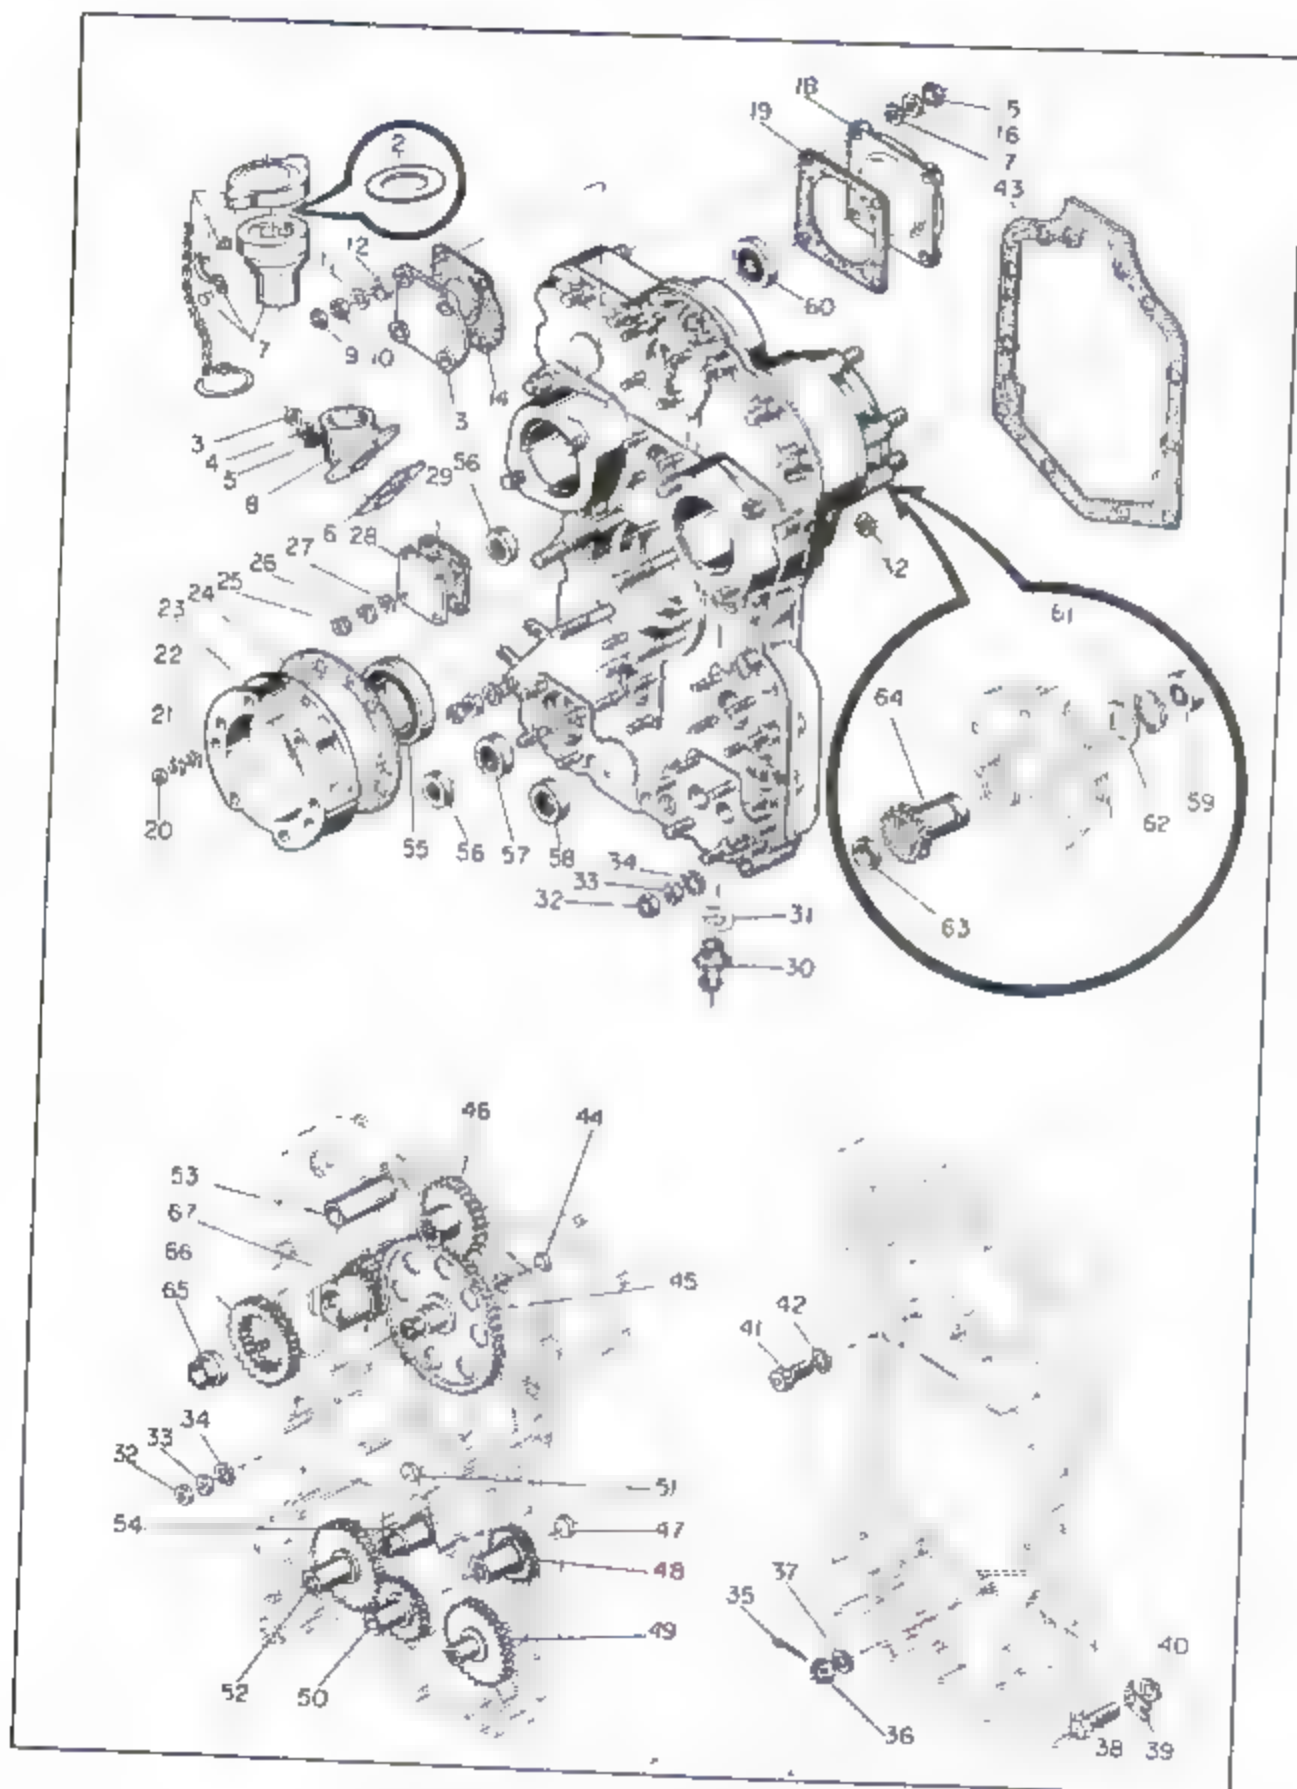

Figure 4-7. Accessory Case, Gears and Covers
4-21. ACCESSORY CASE REAR HALF. (See figure 4-7.) Return engine to its upright position. Remove attaching parts (32, 33, 34) from studs projecting rearward around parting flange of front half and from two studs at the sides projecting forward from rear half. Make sure all gears remain in the front half. (See figure 4-8.) Oil (tube) in upper hydraulic pump gear bushing above left magneto drive remains in rear half.
4-25. ACCESSORY CASE FRONT HALF. (See figure 4-7.) Bend down tabs on washers (39) before removing bolts (38). When sliding off case front half, keep it parallel to crankcase to prevent it binding on long studs.
4-31. ACCESSORY CASE HALVES. (See figure 4-7.) Detach and remove generator drive adapter assembly. Mark each magneto adapter to identify its original position, then detach and remove them from the rear half. Remove remaining parts in ascending order of index numbers.
4-32. GENERATOR ADAPTER ASSEMBLY. (See figure 4-7.) Use a suitable puller to remove seal (59). With Truarc pliers, expand gear retaining ring (61) only enough to clear the shaft, and withdraw ring. Pull out gear (64). Do not remove its oil plug (63).
Legend for Figure 4-7